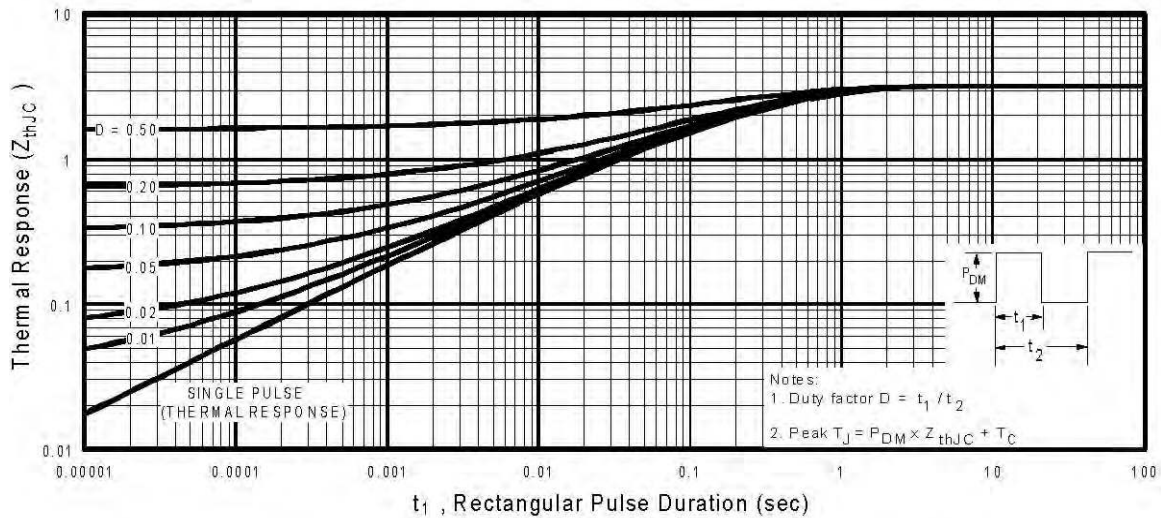

Fig 11. Maximum Effective Transient Thermal Impedance, Junction-to-Case
- ① Repetitive rating: pulse width limited by max. junction temperature. (See fig. 11)
② $V_{DD} = 15V$, starting $T_J = 25^\circ\text{C}$, $L = 220\mu H$